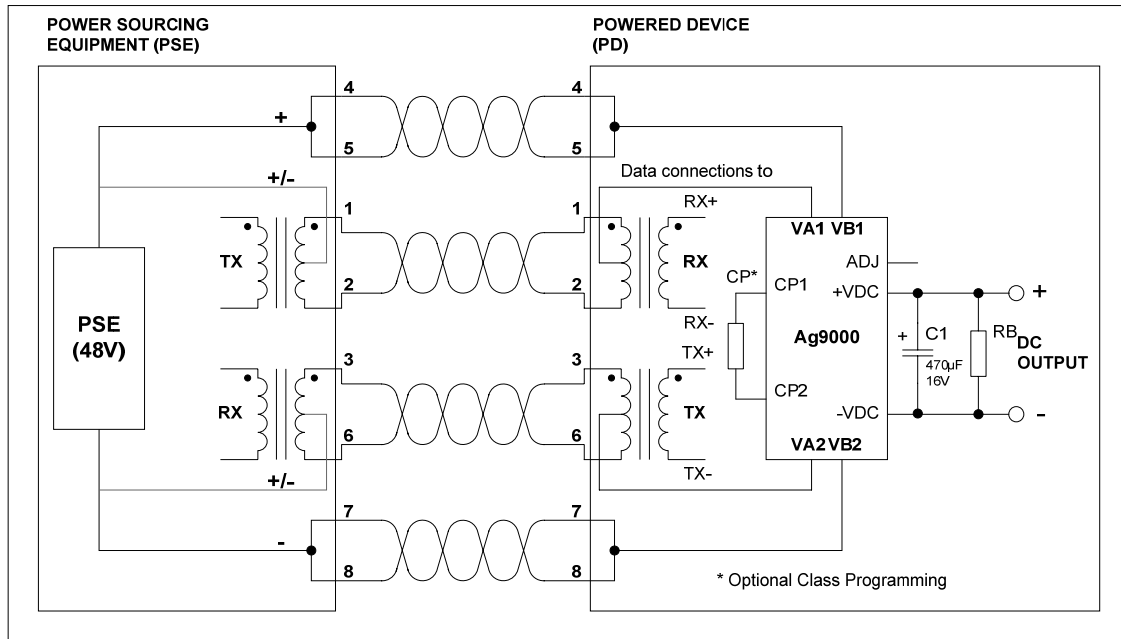

Figure 1: Typical Connection Diagram
Figure 1 shows a basic (10/100 BASE-T) block diagram for connecting Power Sourcing Equipment (PSE) to a Powered Device (PD) that uses an Ag9000 module.
Therefore one of the requirements of the PD is that it must have input polarity protection to enable it to work with both Mode A and B shown in Table 2. The Ag9000 does have on-board input polarity protection, so there is no need to fit any external rectification as shown in Figure 1.